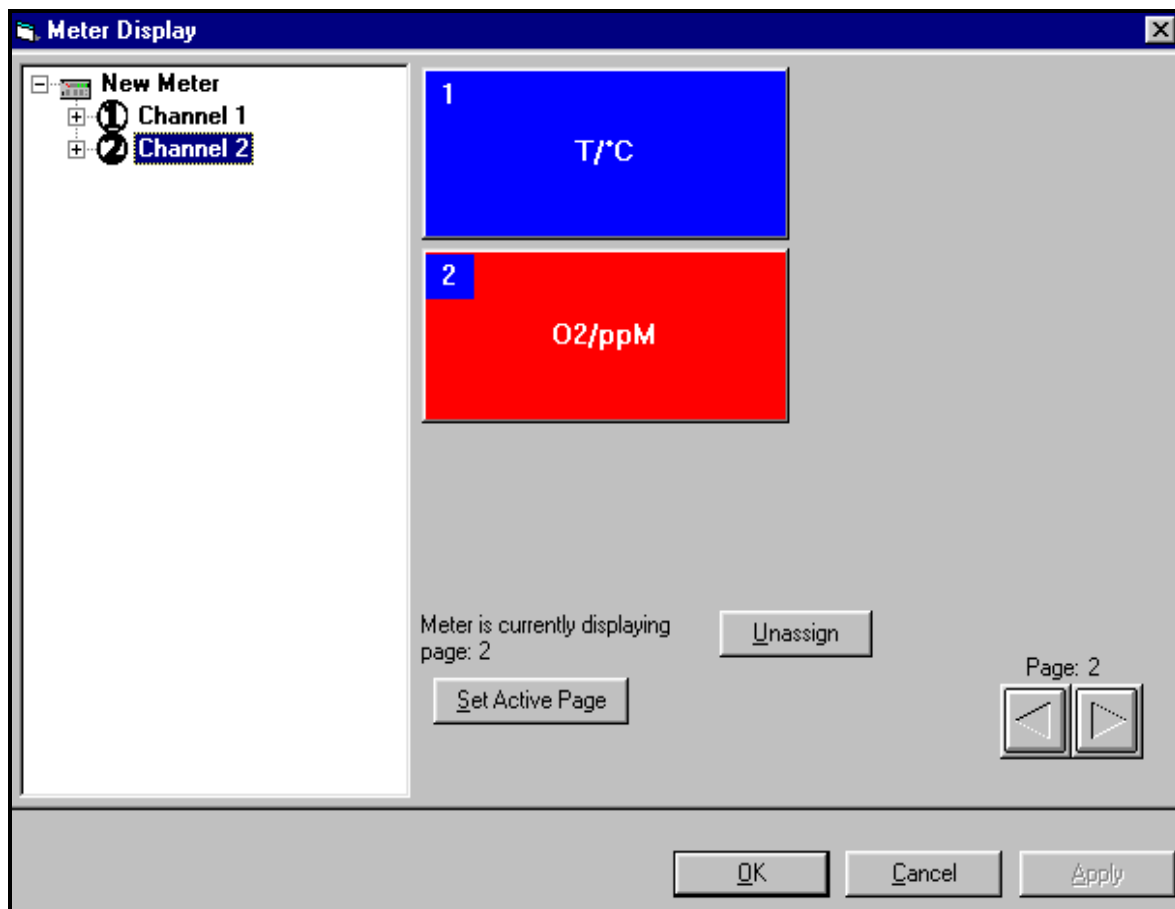
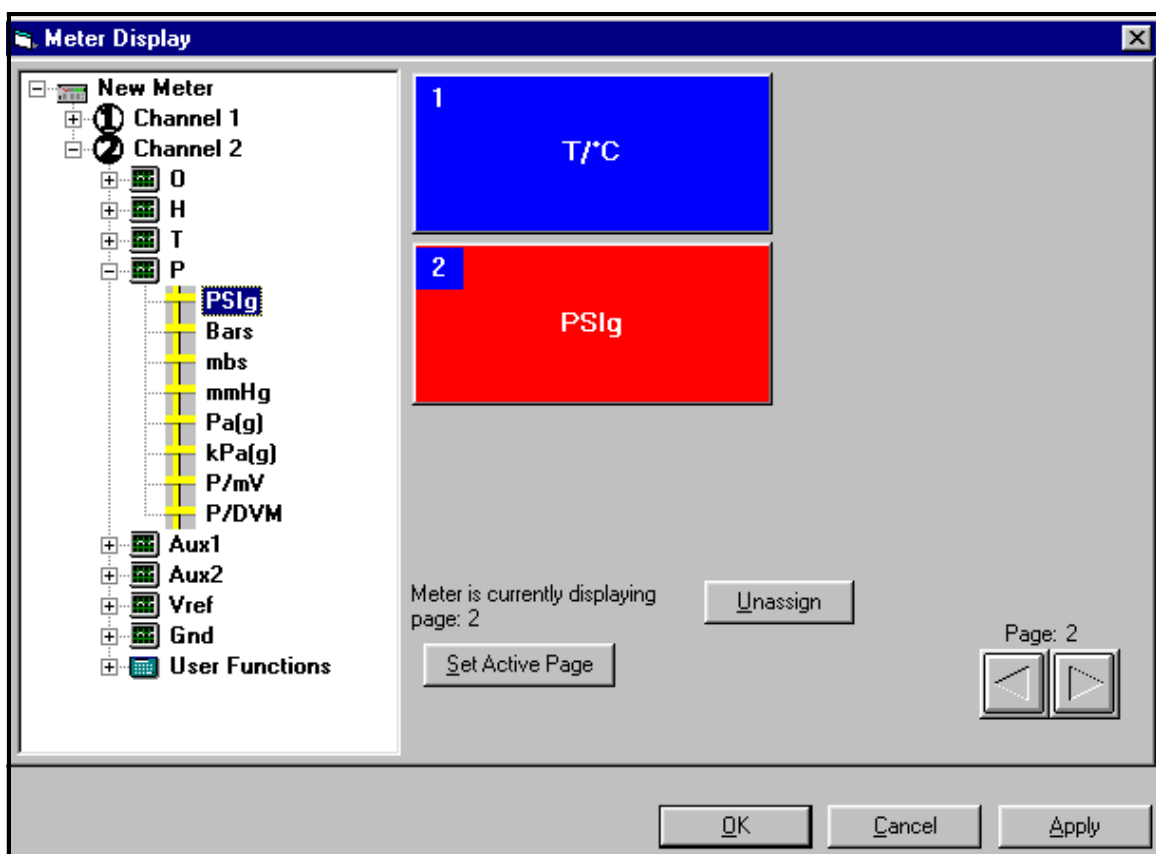

Figure 4-1: The Meter Display Window
Figure 4-2: Matrix Display After Programming
4. Double-clicking on any channel opens the “*Meter Display*” window, shown in Figure 4-1 on page 4-2. Each individual blue window shows the mode and unit measured in the corresponding window on the Series 3, with the assigned channel number in the upper left corner. A line below indicates which page the meter is currently displaying.
Figure 4-2 below shows a typical change on the PC screen from O₂/ppm (shown in Figure 4-1 on page 4-2) to PSIg.